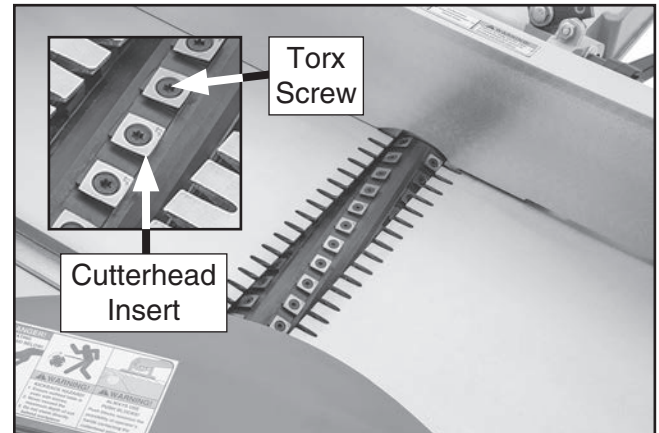

Figure 38. Location of cutterhead inserts and Torx screws.
6. Carefully clean away all sawdust or debris from top of insert, Torx screw, and surrounding area **Figure 38**).